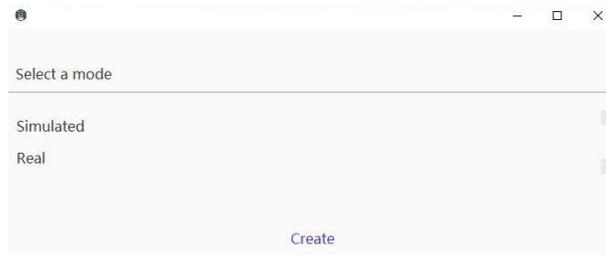

Figure E-5 Mode Selection Interface
- 1) Double-click the icon of MGISP-960 on the desktop. The mode selection interface is displayed, as shown in following figure E-5. Select "Real" and click "Create".